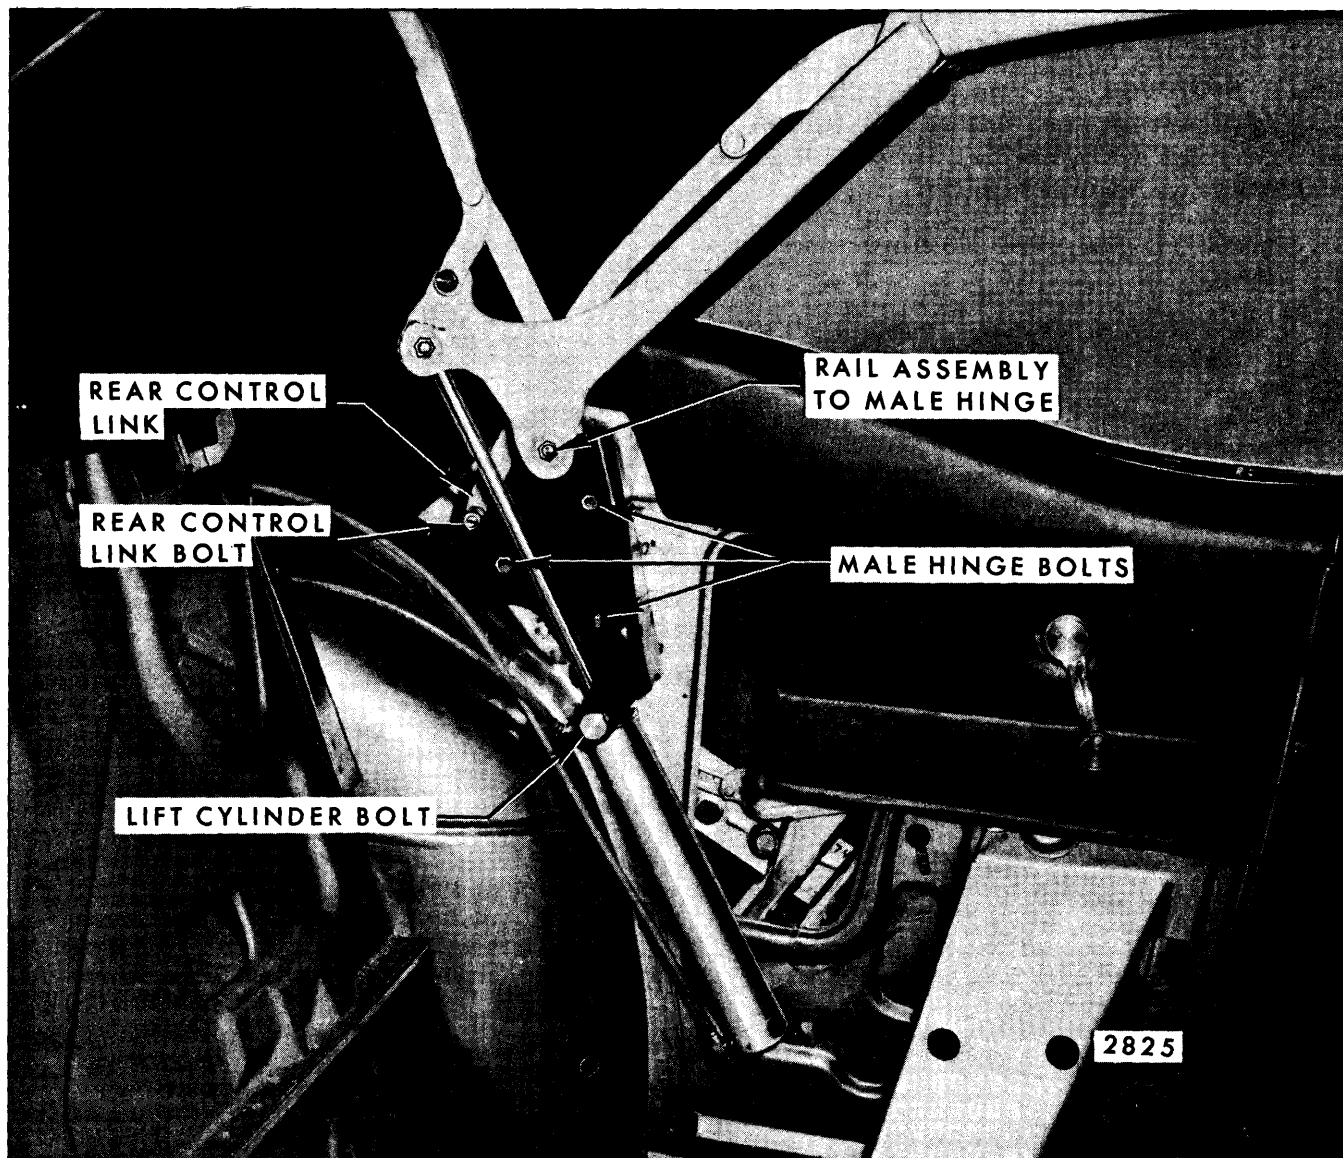

Fig. 13-81—Folding Top Linkage Attachment - "A" Styles Shown, "B & C" Typical
2. Loosen bolt securing control link sufficiently to permit adjustment (Fig. 13-81).